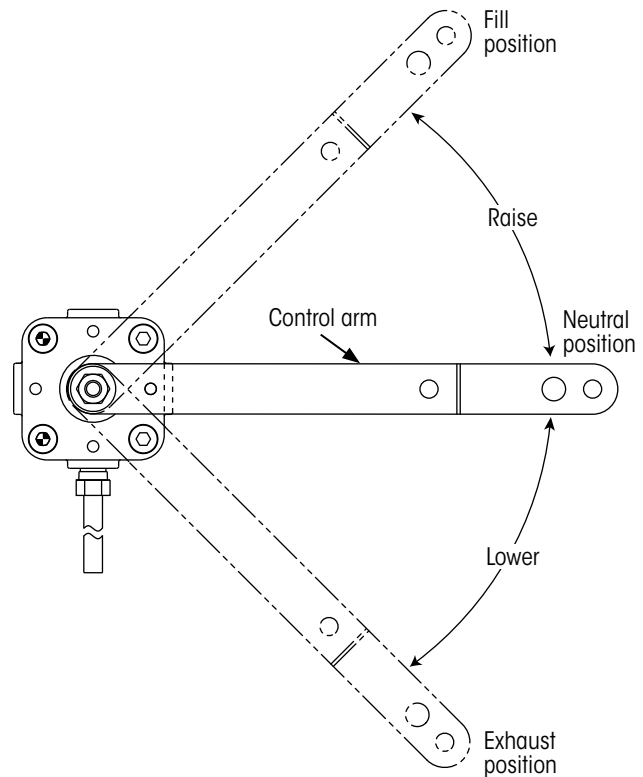

Figure 4: Ride height adjustment
5. If necessary, **rotate** the control arm on the height control valve up to raise or down to lower the suspension (Figure 4) until the distance between the suspension mounting surface and the axle center matches the recommended suspension ride height.